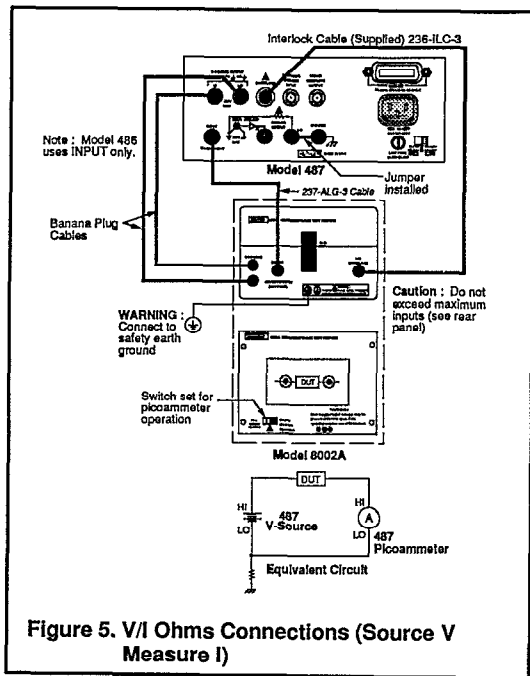

Figure 5. V/I Ohms Connections (Source V Measure I)
1. With zero check enabled and the V-Source in standby, connect the circuit shown in Figure 5.